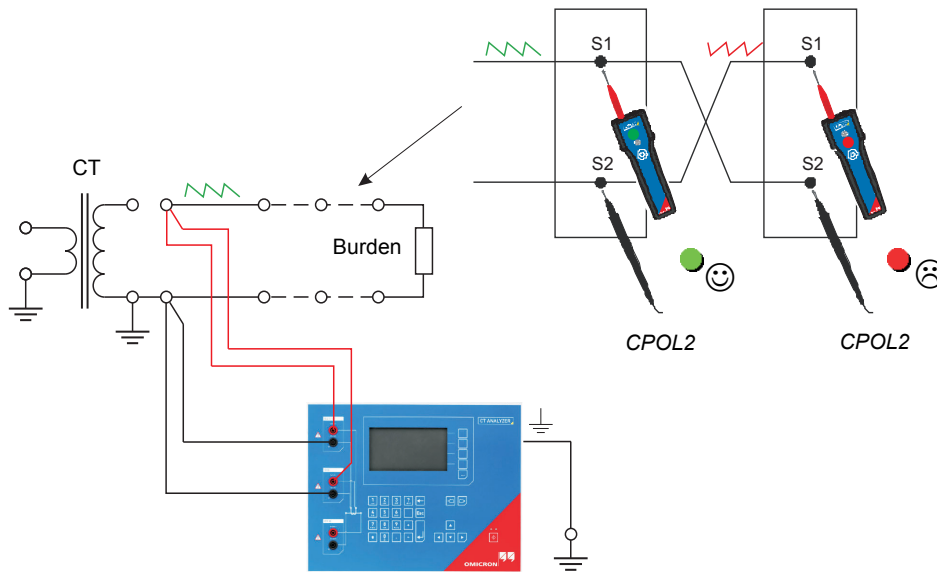

Figure 10-8: Wiring example for polarity check
1. Make sure that the wiring to be checked is disconnected from the ungrounded side of the CT (see Figure 10-8).
2. Connect the OUTPUT sockets and input SEC of *CT Analyzer* to the wiring to be checked (see Figure 10-8).
7. Use the *CPOL2* polarity checker to check the polarity of the wiring (see Figure 10-8).